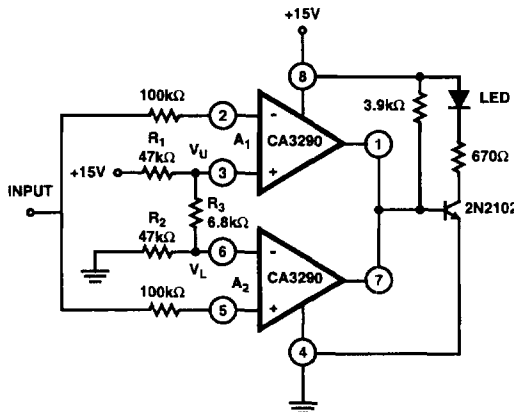

FIGURE 7. WINDOW COMPARATOR
Both halves of the CA3290 can be used in a high input impedance window comparator as shown in Figure 7. The LED will be turned "on" whenever the input signal is above the lower limit (VL) but below the upper limit (VU), as determined by the R1/R2/R3 resistor divider.